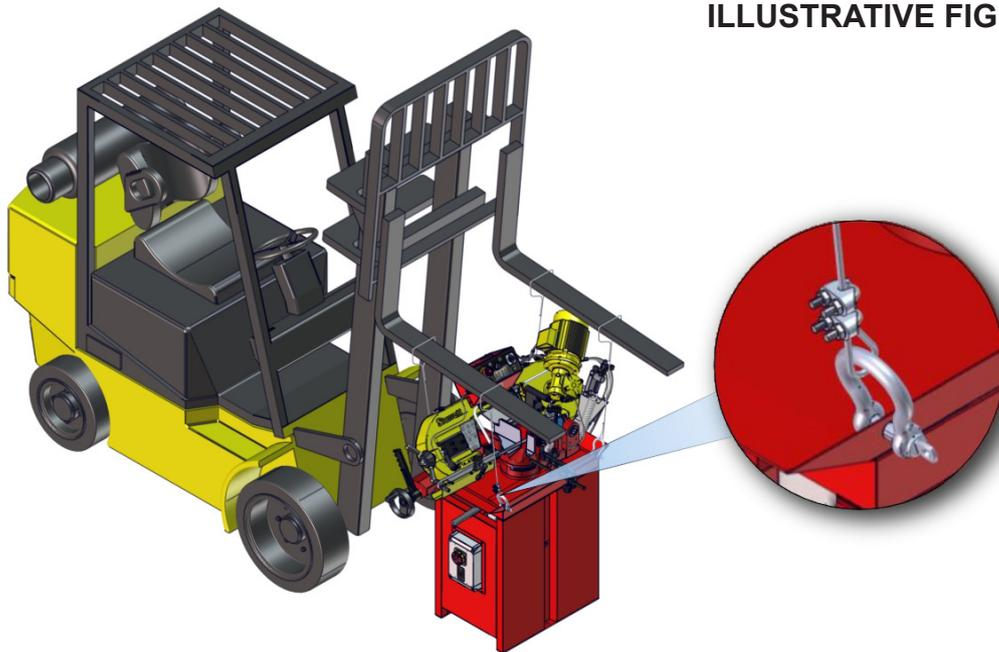

FIGURE 8.1: EXAMPLE OF LIFTING THE MACHINE
1. USE forklift trucks with a load capacity of over 300 kg, using it in accordance with figure 8.1;